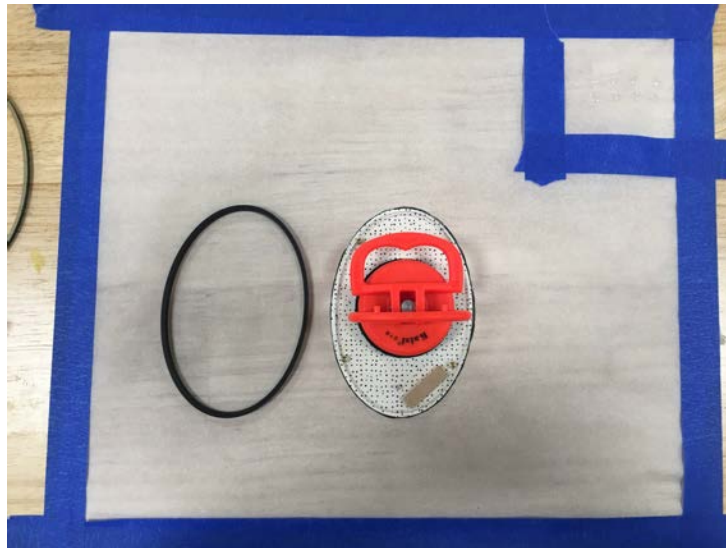

Figure 54: Sealing band and bubble module preparation
17. Squeeze out an amount of Cyanoacrylate (CA) glue about the size of a dime onto the parchment paper section (Fig 54).